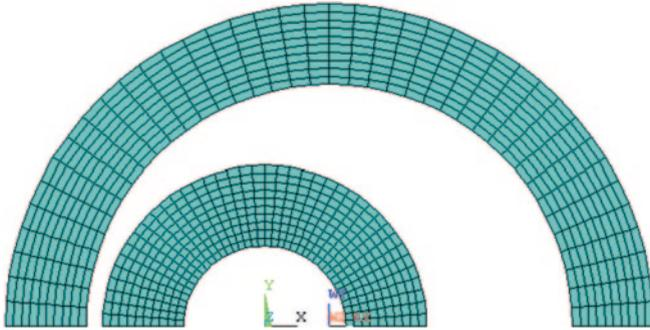

Fig. 9.67 Mesh representing the conical fin
- The mesh appears in the *Graphics Window*, as shown in Fig. 9.67.